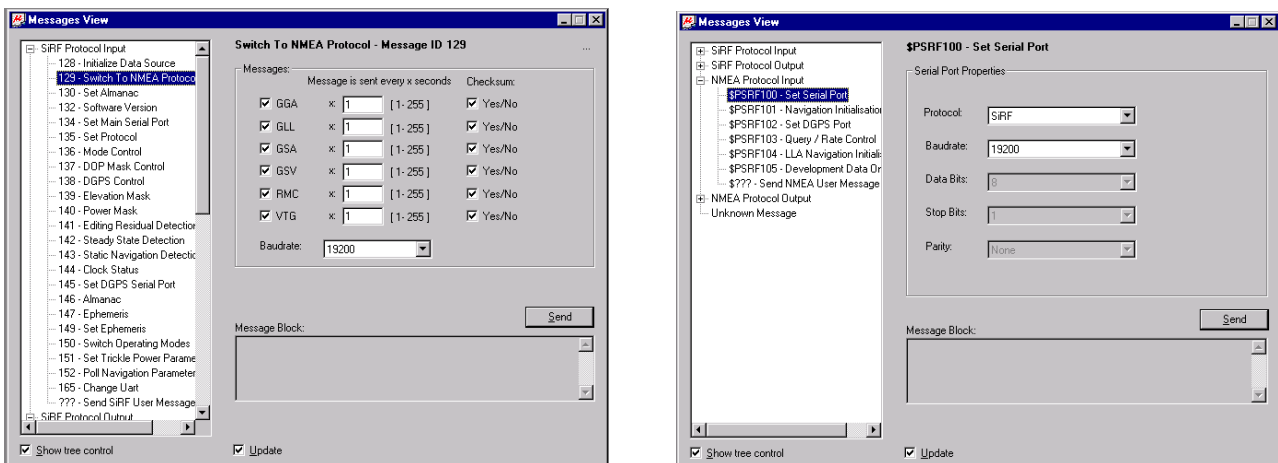

Figure 21: Switching from SiRF to NMEA (left) or from NMEA to SiRF Protocol (right)
- Switching from SiRF-Protocol to NMEA-Protocol:** Open the list "SiRF Protocol Input" and select the line "129. Switch to NMEA Protocol"(Figure 21, left). Check the wanted messages and if a checksum is used, enter the sending interval of the messages and the needed Baudrate. Pressing the buttons marked **Send** send the command to the receiver that will change the receiver's communication settings for the serial port.
- Switching from NMEA-Protocol to SiRF-Protocol:** Open the list "NMEA Protocol Input" and select the line "\$PSRF100 Set Serial Port"(Figure 21, right). Enter the wished Protocol (SiRF) and the needed Baudrate. Pressing the buttons marked **Send** send the command to the receiver that will change the receiver's communication settings for the serial port